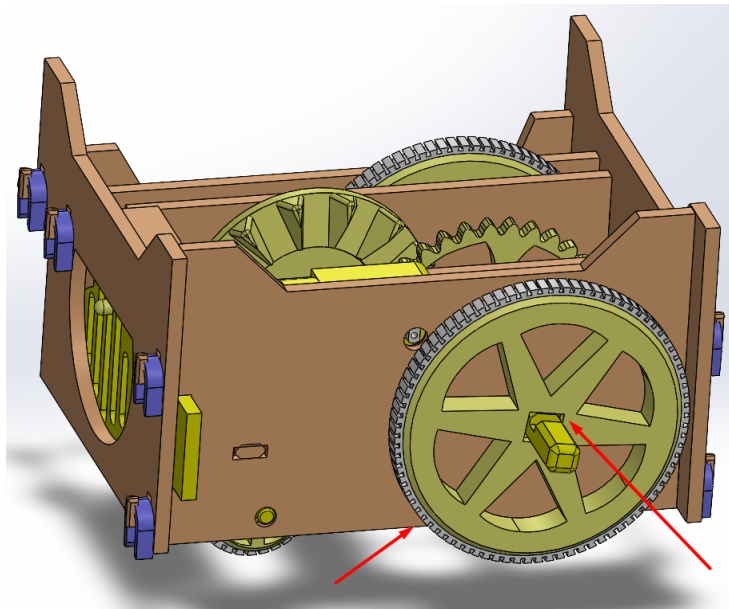

FIGURE 19
STEP 15: Next we insert the second wheel into the axis from the outside as seen in figure 19.